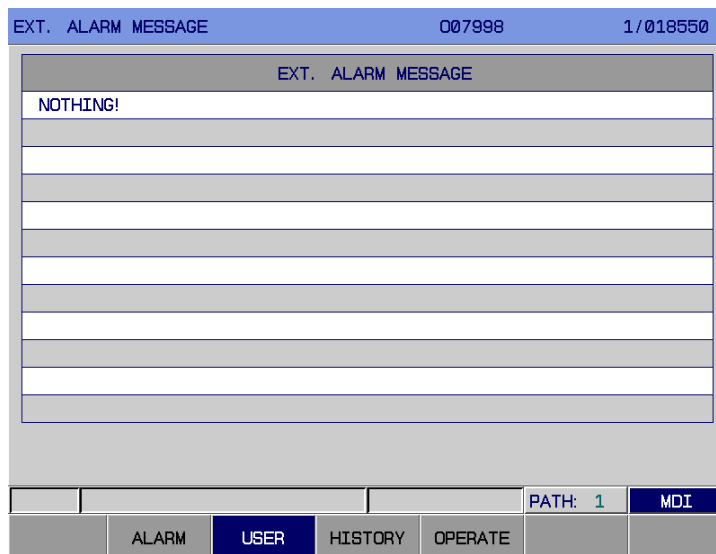

Fig. 3-7-2
2. User page In <ALARM> page, press soft key **【USER】** to enter external alarm page, as is shown in Fig. 3-7-2: